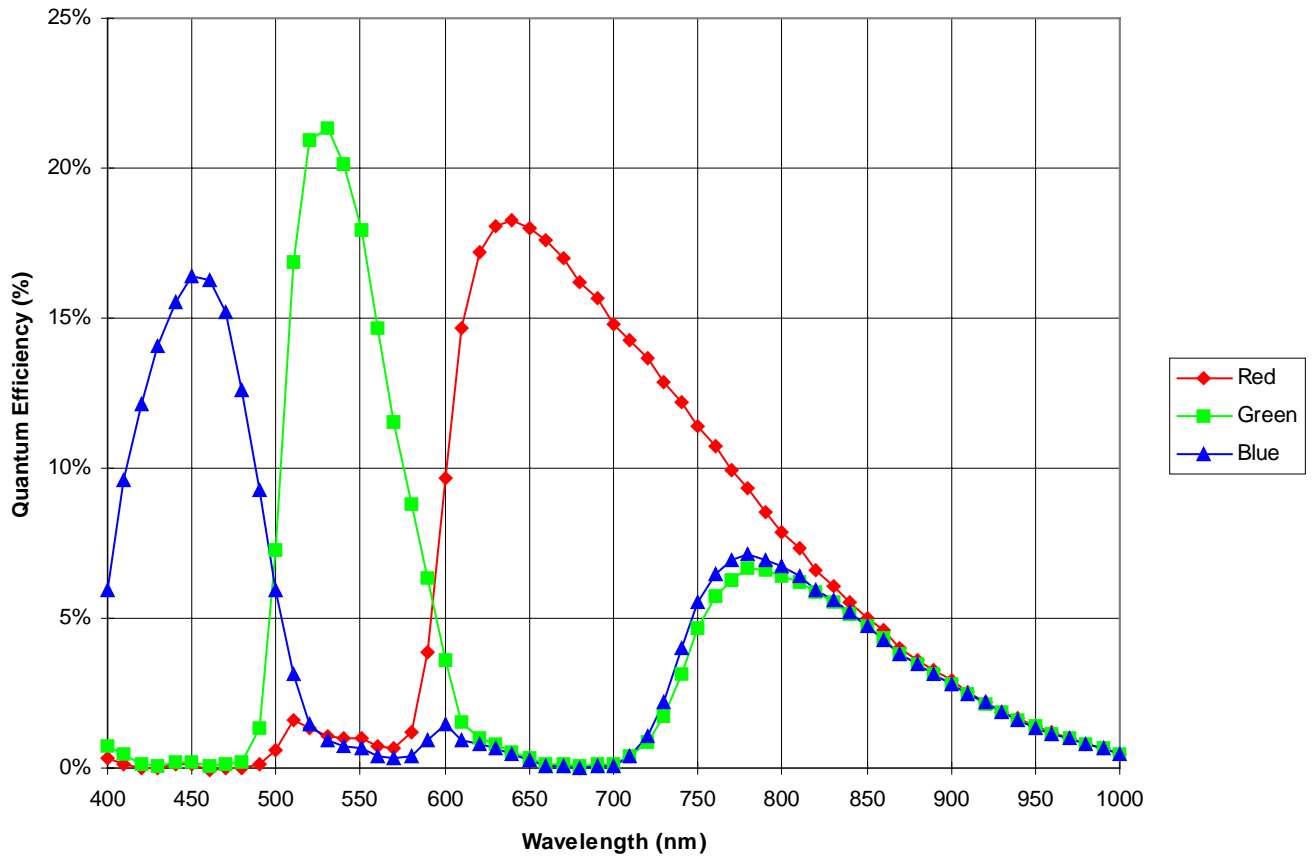

Figure 17 Nominal KAI 0311CM Spectral Response
2. Refer to typical values from Figure 17 Nominal KAI 0311CM Spectral Response.